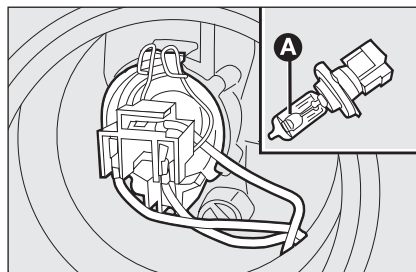

fig. 24
- ☐ remove the bulb **A-fig. 24** from connector **B** and replace it;